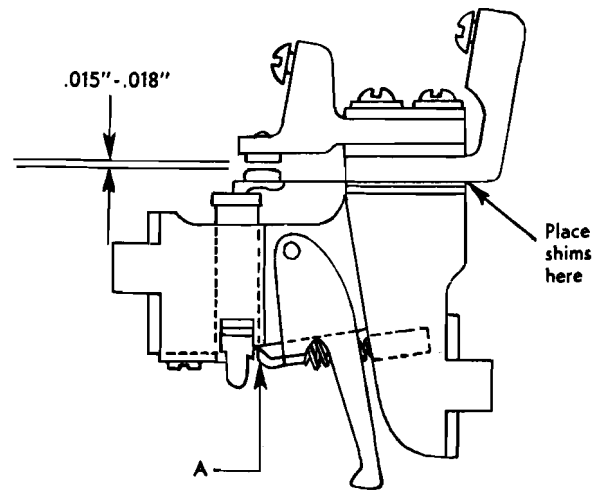

Figure 43. Circuit Breaker Adjustment
3. Place shims between the lower contact terminal block and the contact strap to provide .015" to .018" air gap between the contact points (Figure 43).